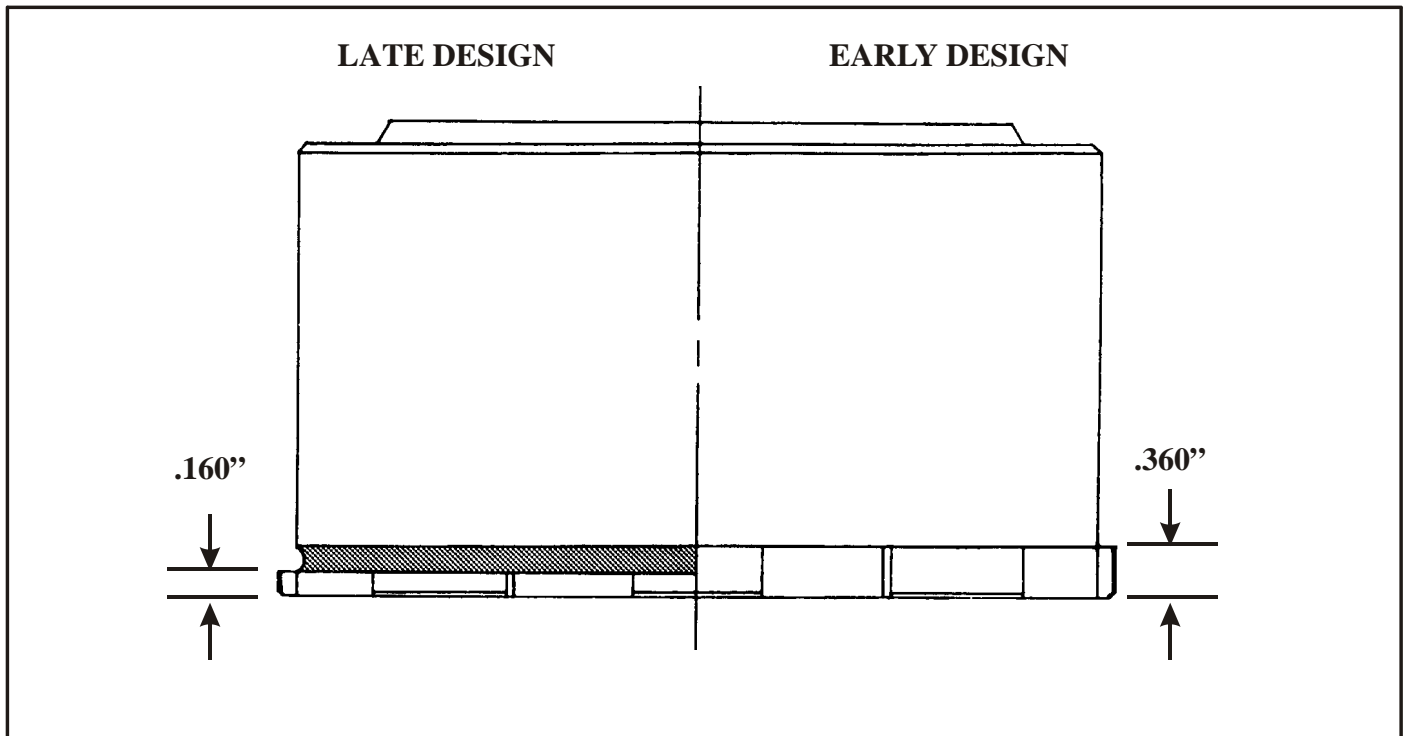
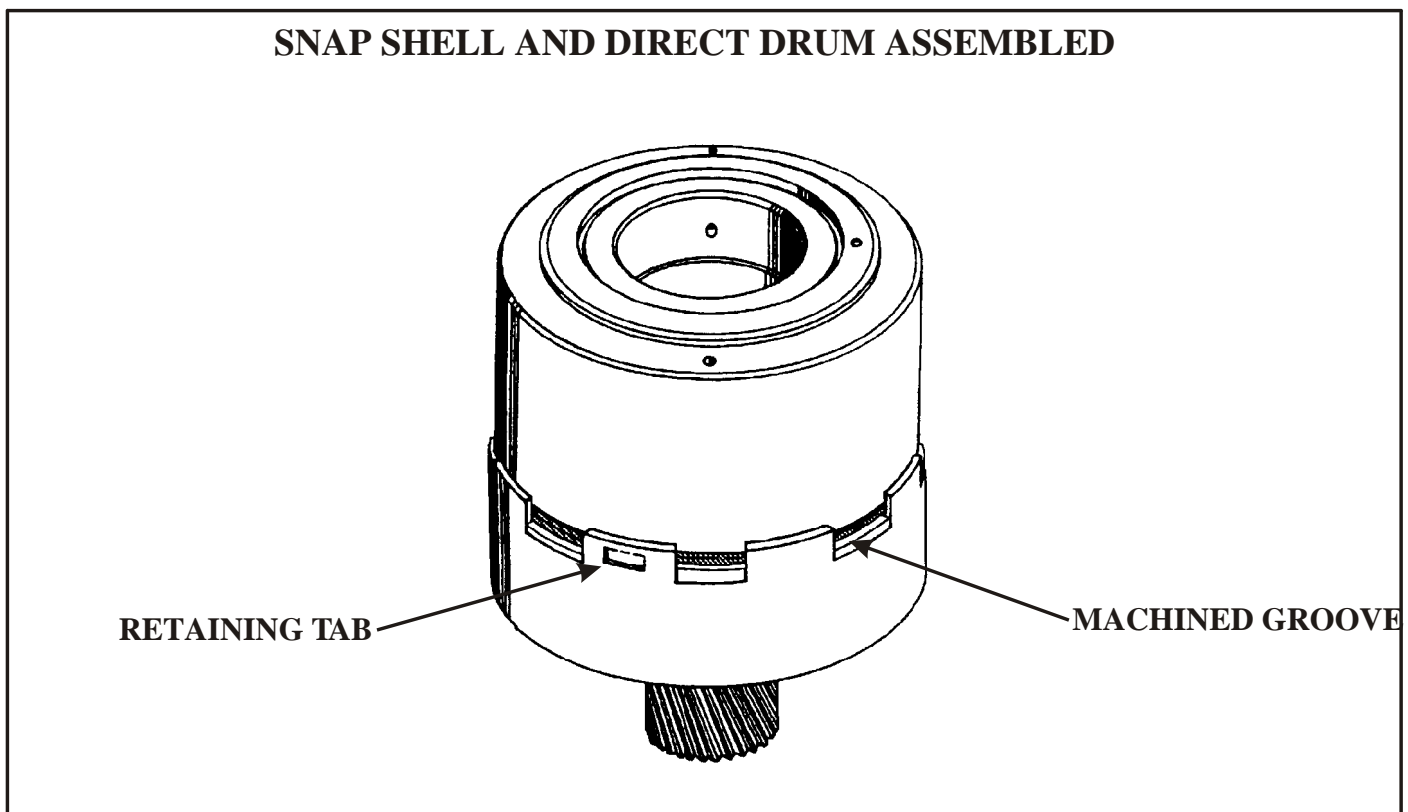

Figure 3
Figure 4
(3) **DIRECT CLUTCH DRUM** - The “Lug” area where the direct clutch drum engages the sun gear shell, was machined approximately .200” thinner, and a -.050” deep groove was machined into the drum to accommodate the added retaining tabs on the “Snap Shell” (See Figure 3). This now allows the sun shell and the direct drum to “Snap” together for easier assembly (See Figure 4). This change also allows the elimination of the number 4 thrust washer, located between the direct clutch drum and center support.
- (3) The new design “Snap Shell” must only be used with the direct clutch drum that is machined to accept the retaining tabs (See Figure 3).
- (4) The direct clutch drum WITH the machined groove for the “Snap Shell” WILL retro-fit back to ALL previous models (See Figure 3).